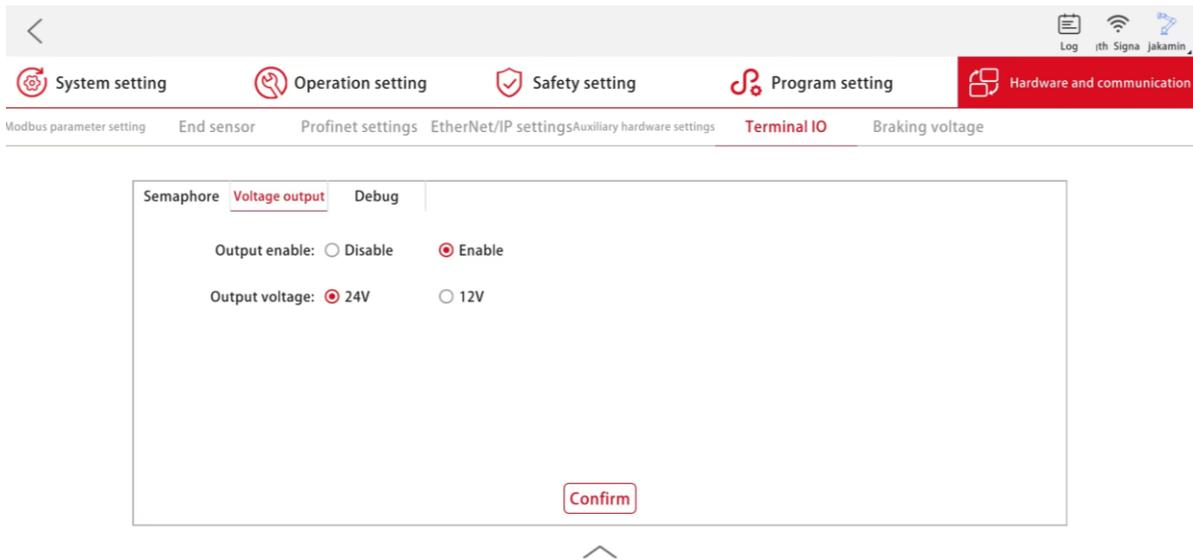

Figure 3-5 Power-on Configuration Interface of Type VI Sensor
- c. Tap [Settings] → [Hardware and communication] → [Terminal IO] → [Voltage output] to configure the TIO output power supply, set the output voltage to 12V and enable it (see Figure 3-5). At this time, the sensor indicator light is on, indicating the sensor is powered on.